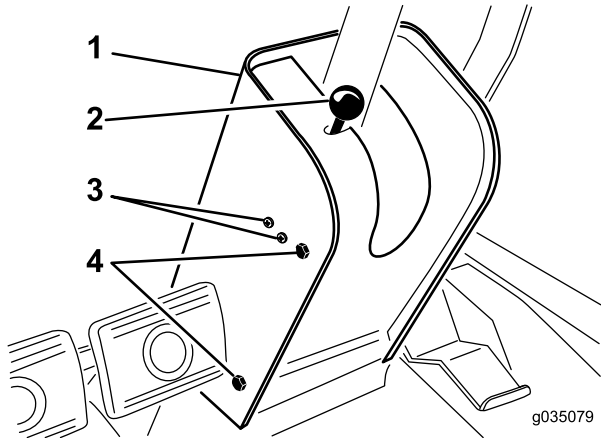

Figure 75
2. Remove the knob from the parking-brake rod and the screws from the steering-tower cover (Figure 75).
4. Loosen the screws and nuts that secure the parking brake switch to the left side of the steering tower (Figure 75).